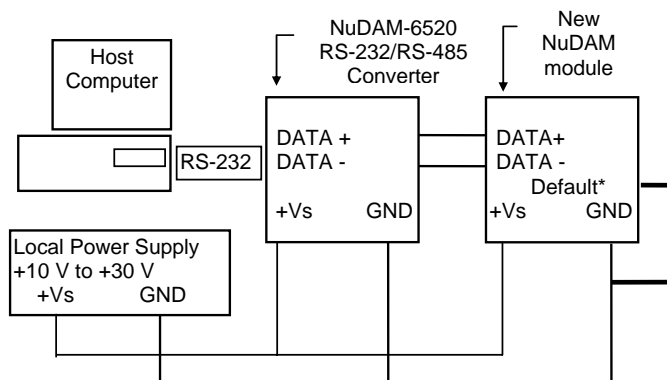

Figure 2-1 Layout for Configuring the NuDAM module
2. Connect a brand new NuDAM module with the RS-485. Set the module in *Default State* by shorting the **DEFAULT\*** pin. Refer to Figure 2.1 for detailed wiring.